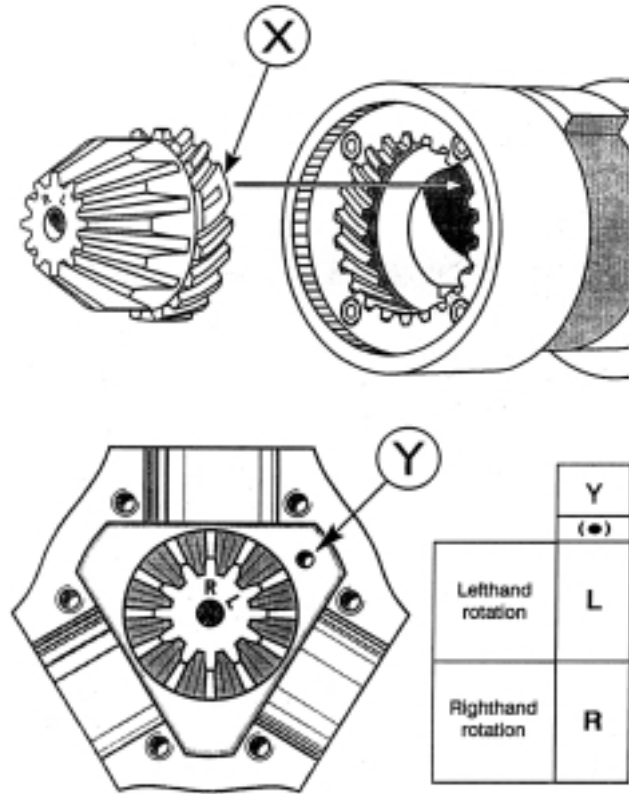

Fig. 3
- 3) **ASSEMBLY:** Make sure that if you receive more than one propeller that you do not interchange parts. Each propeller is individually balanced and if interchanged it will be put out of balance. Please use figure 3 in the instruction book for part number references.
- E) Locate the mark on the top inside of the spinner (a small drill hole). This is the "Y" mark in fig. 3. Rotate the spinner until the "Y" mark on the spinner coincides with the correct letter on the top of the cone gear. "R" is for a right hand rotation shaft and "L" is for a left hand rotation shaft. (Shaft rotation is determined from the stern of the boat looking forward).